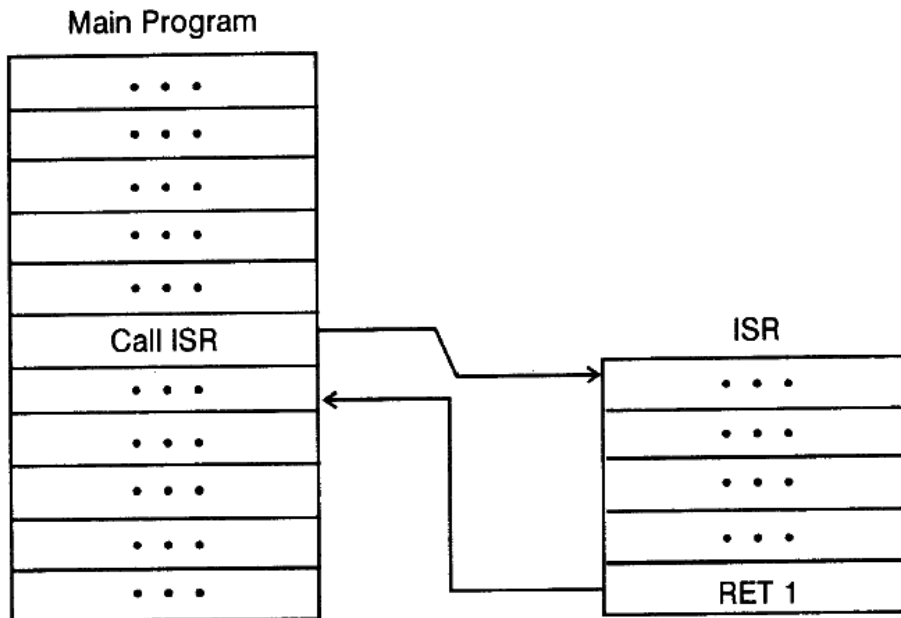

Figure 6:Interrupt Structure
- Fig. 5. Shows the activation of INT0 and Fig.6. shows the activation of INT1